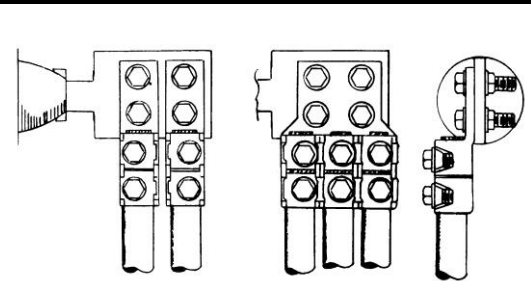

Figure 7
- Figure 7 – Typical example of bolted connections for two, four or six cables to maximum capacity of lug.